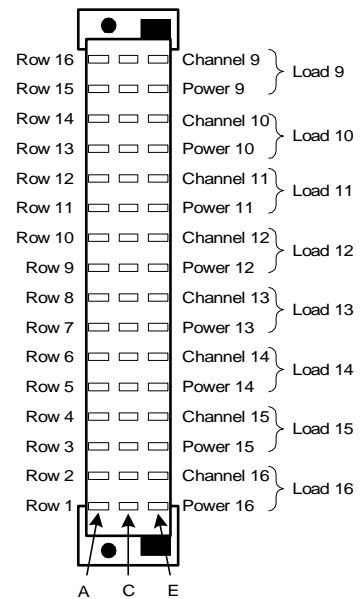
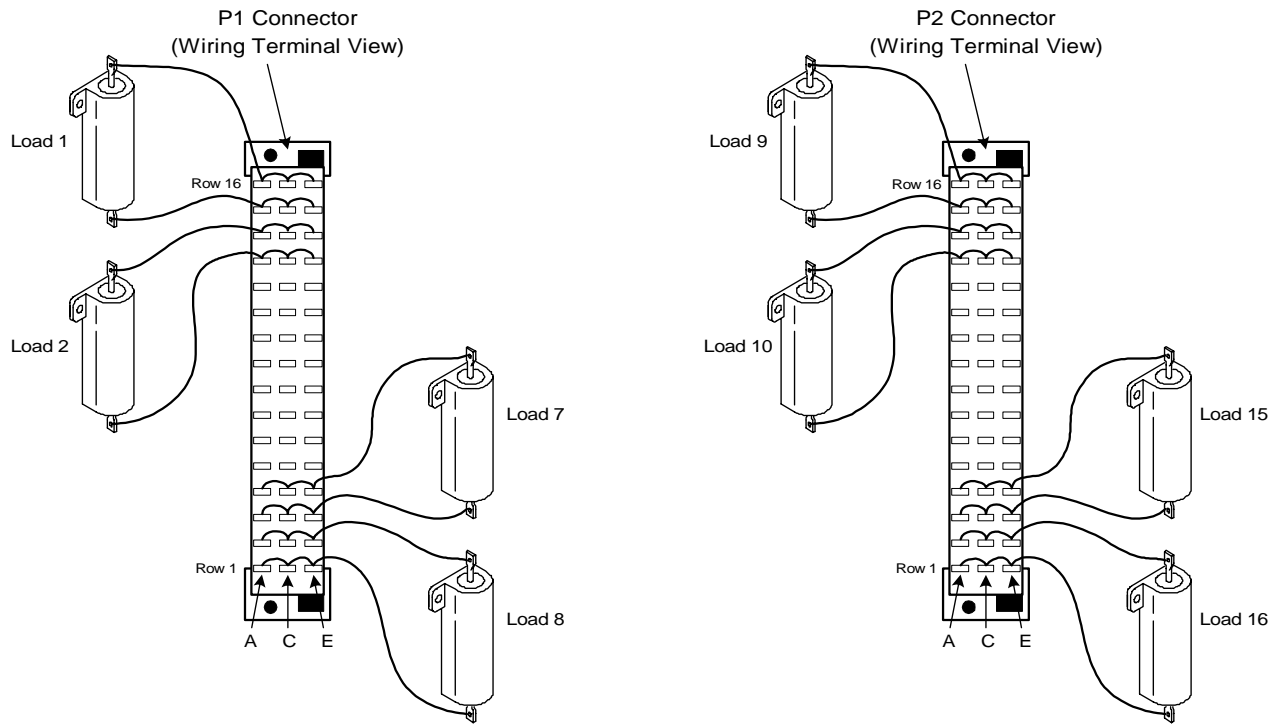

Figure 3-25. HP E6176A Load Wiring Schematic and P1/P2 Pinouts
Figure 3-26. HP E6176A Current Sharing Example
Figure 3-25 is a simplified schematic and connector pinouts showing how loads are connected to P1/P2. Loads 1 through 8 connect to P1 and loads 9 through 16 connect to P2.
**Caution** To prevent premature pin failure from excessive current flow, when connecting high-current (>3 amp) loads to P1, wire across all three pins in each row (see Figure 3-26 on page 61).
Notice in the wiring schematic (Figure 3-25) that pins A, C and E in each row of J1/J2 are connected together on the PC board. When connecting high-current (>3 amp) loads, wire across all three pins in each row of P1/P2 (see Figure 3-26). This ensures current sharing across all pins and prevents premature pin failure from excessive current flow.